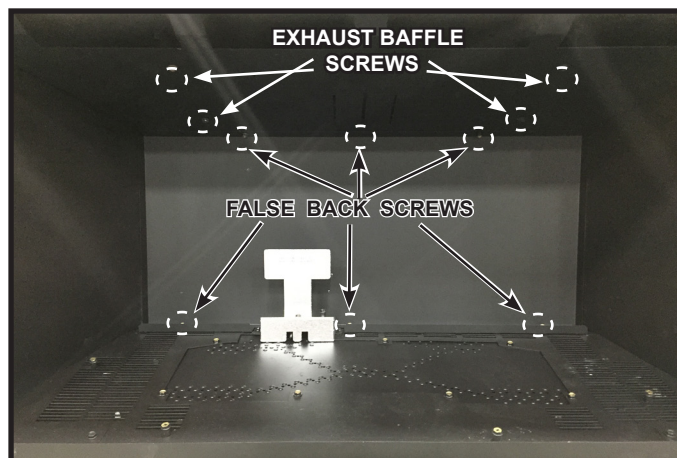

Figure 2. Screw Location
4. Remove the exhaust baffle and replace with contemporary exhaust baffle. See Figure 2.
8. Install false back. See Figure 2.